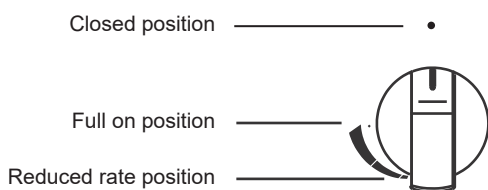

Fig 8
1. To light the hotplate push In the appropriate control knob and turn anti-clockwise to the large flame symbol (fig. 8).